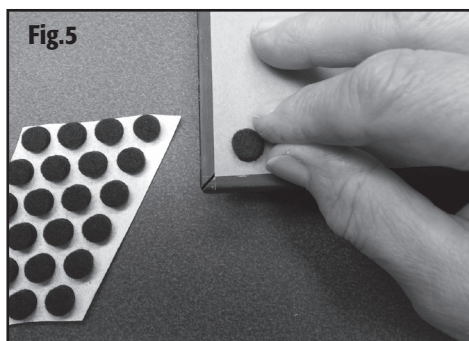

Fig. 6
To attach saw tooth hanger, place frame face down on a soft protected surface like cardboard. Next, mark a line at the center of the top of the frame (**Fig. 6**). Align the center dot of the hanger over the mark (**Fig. 7**). Make sure the hanger teeth are pointing toward center of frame. Using a hammer, tap hanger leg into wood frame one leg at a time (**Fig. 8**).
6. Using water in a spray bottle, completely dampen Kraft paper evenly. As water dries, the paper will shrink tight. **(Fig. 6)**